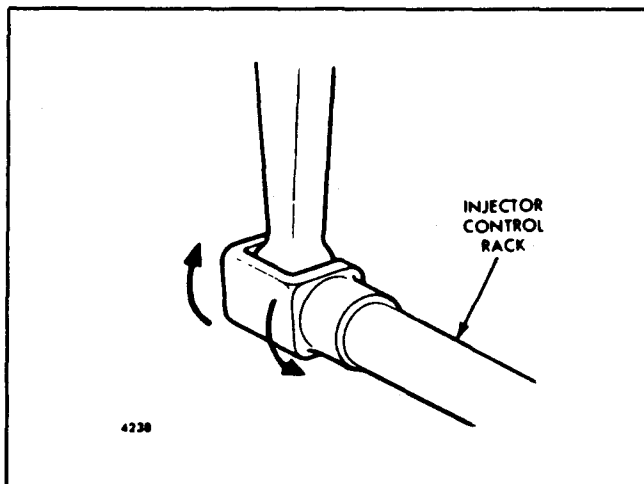
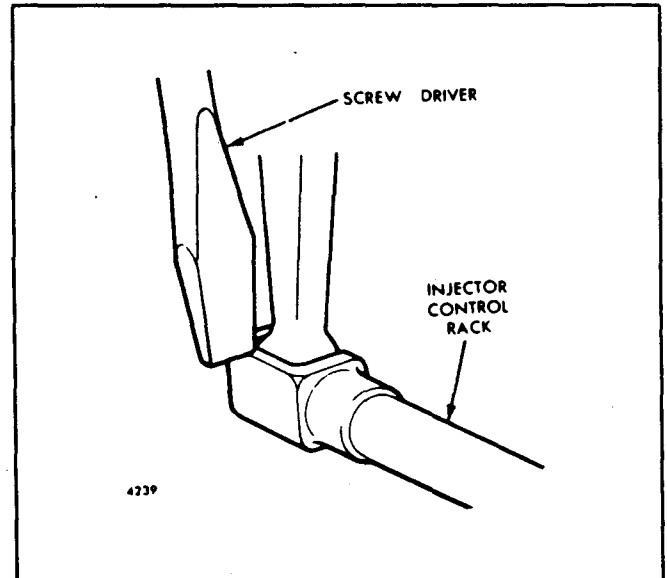

Fig. 5 - Checking Rotating Movement of Injector Control Rack
Fig. 6 - Checking Injector Control Rack "Spring"
5. To be sure of the proper rack adjustment, hold the stop lever in the RUN position and press down on the injector rack with a screw driver or finger tip and note the "rotating" movement of the injector control rack (Fig. 5). Hold the stop lever in the run position and, using a screw driver, press downward on the injector control rack. The rack should tilt downward (Fig. 6) and when the pressure of the screw driver is released, the control rack should "spring" back upward.